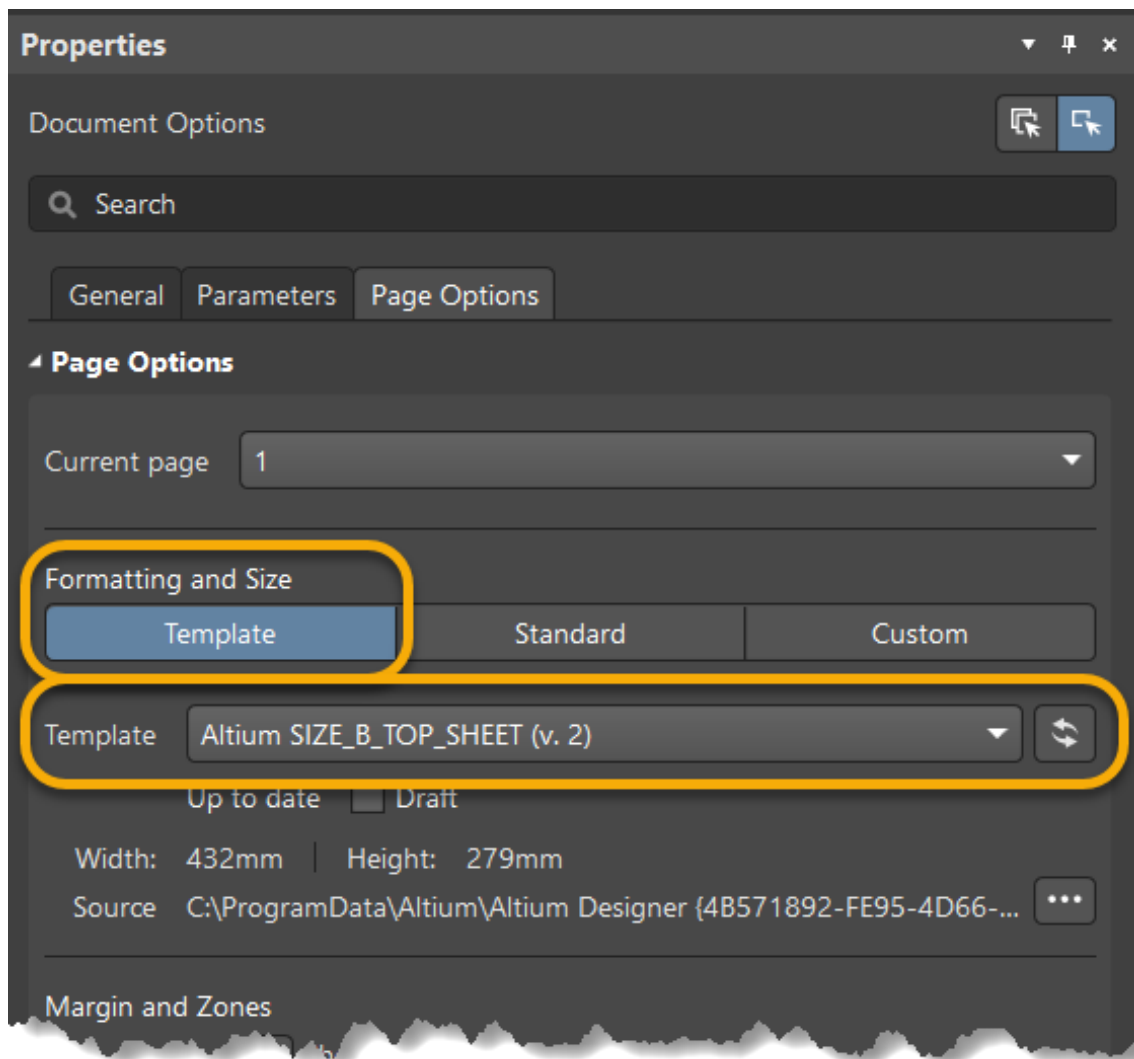

Figure 1. Changing the document template
11. Open the *Properties* panel and select the *Page Options* tab. Under the *Formatting and Size* pane, you see the used *Template* for this document, **as shown in Figure 1**.